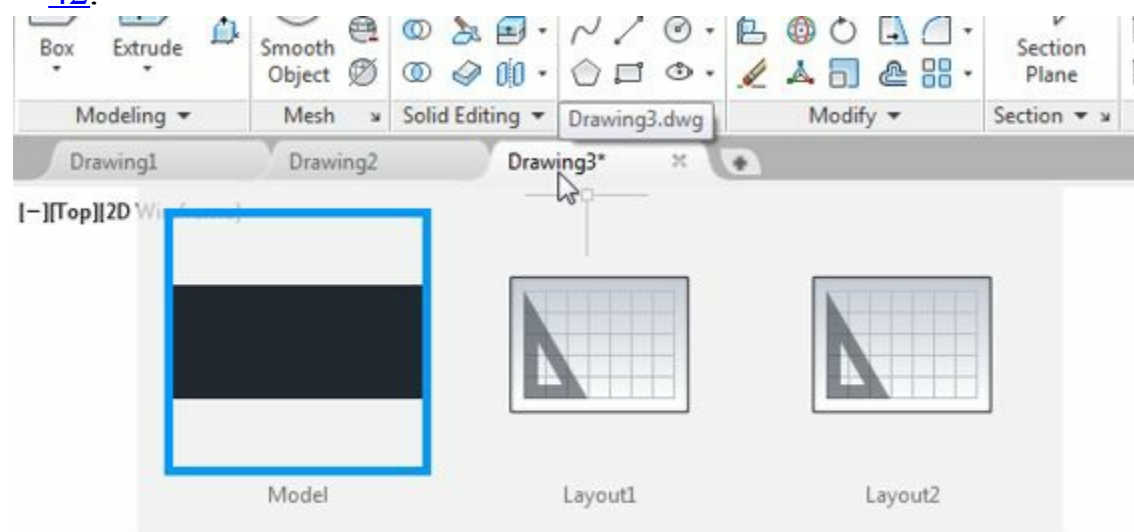

Figure-42. Interactive box for layout switching
- Hold the cursor over the tile of any drawing file in the Drawing tab bar. An interactive box will be displayed allowing you to switch between model and their paper spaces/layouts; refer to Figure-42.